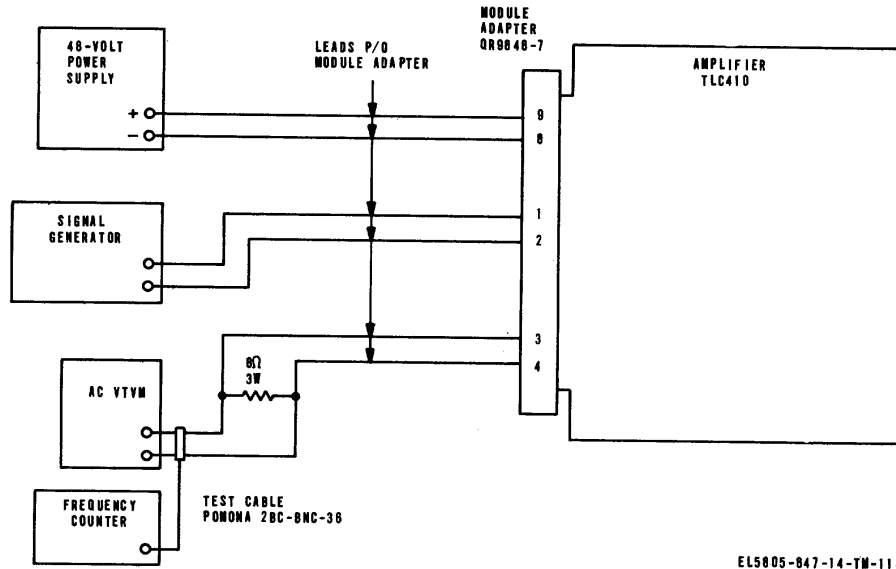

Figure 6-24. Amplifier TLC-410 performance test setup diagram .
- (1) Connect the test equipment as shown in figure 6-24.
- (2) Adjust the power supply for 48 vdc.
- (3) Adjust the signal generator for an output of 1, 000 Hz at 3.64 vrms. The ac vtm must